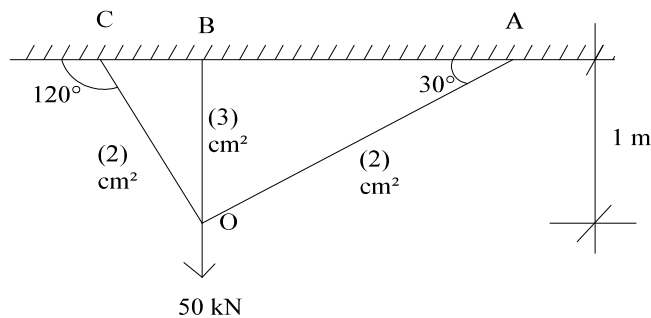

Fig.3
1. Resolve the forces in the members of the truss shown in Fig.3 by finite element method. Take  $E = 200 \text{ GPa}$ .